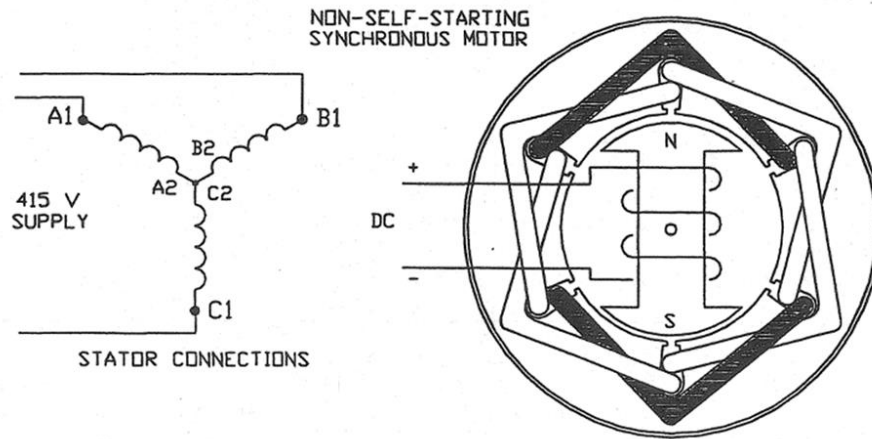

Figure 9 - Three phase synchronous motor.
- 36. The construction of a three phase synchronous motor can be the same as that of a low speed alternator, but instead of rotating the d.c. field and taking the output from the stationary armature winding, d.c. is applied to the revolving d.c. field and a three phase supply is connected to the stator winding- as shown in Figure 9.
- 377. In the type of synchronous motor shown in Figure 9 the rotor is run up to almost synchronous speed by some mechanical means, then d.c. is applied to the rotor. The fixed magnetic poles on the rotor are attracted to the opposite matching poles on the stator, so the rotor 'locks in' to the exact speed of the rotating magnetic stator field.